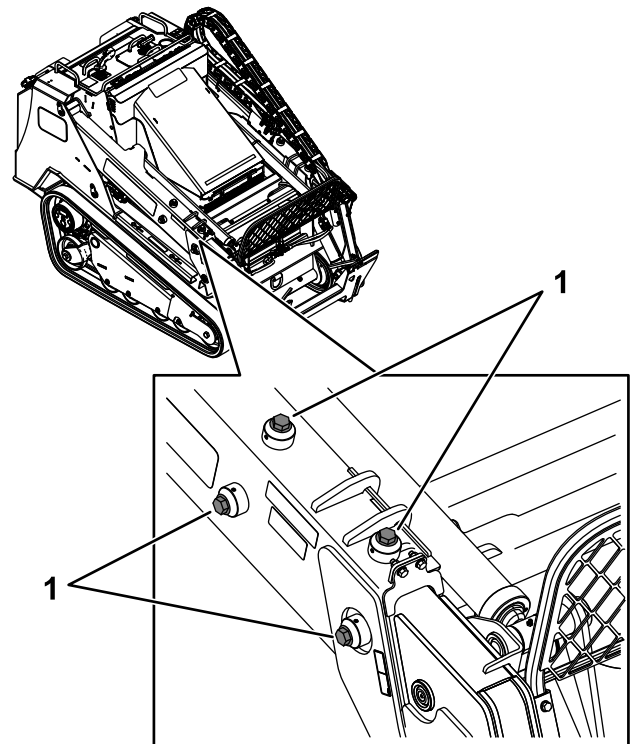

Figure 81
3. On each loader arm, loosen the setscrew on the 4 adjustment screws (Figure 81).